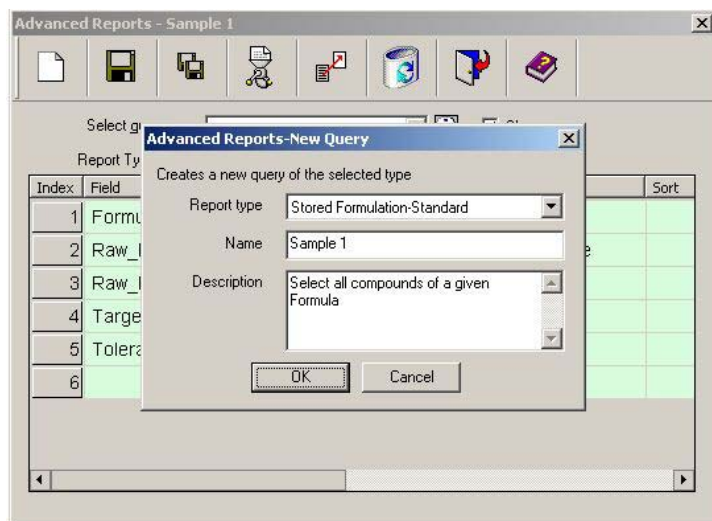

Figure 1
- Click **Ok** button to save the query. Refer Fig 1.